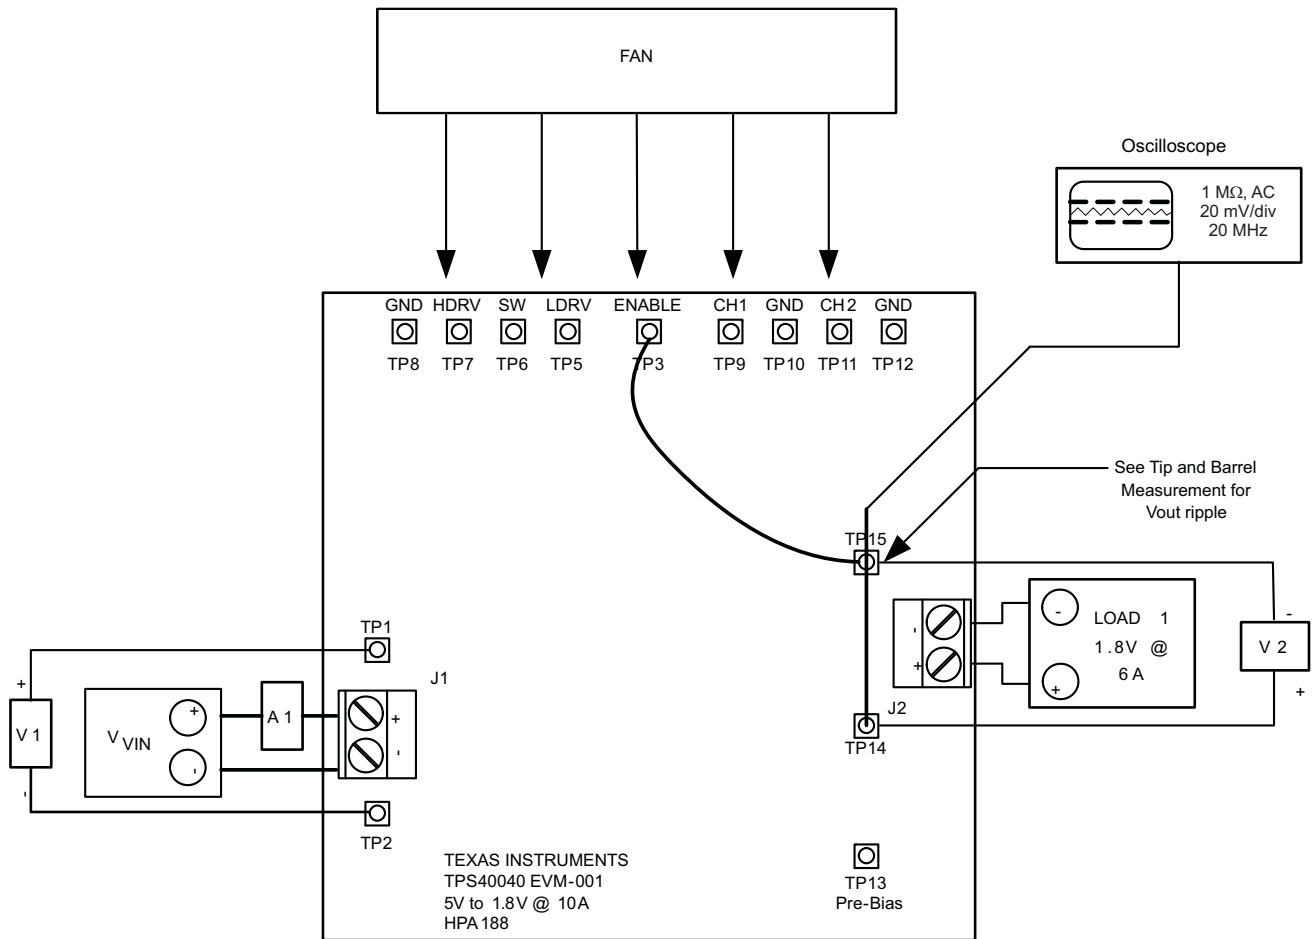
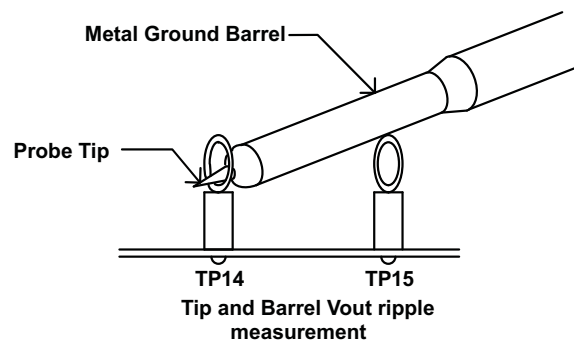

Figure 2. TPS40040EVM-001 Recommended Test Set-Up
Figure 3. Output Ripple Measurement – Tip and Barrel using TP14 and TP15
TPS40040EVM-001 provides two test points for measuring the voltage generated by the module. This allows the user to measure the actual module output voltage without losses from output cables and connector losses. All output voltage measurements should be made between TP14 and TP15. To use TP14 and TP15, connect a voltmeter positive terminal to TP14 and negative terminal to TP15. For output ripple measurements, TP14 and TP15 allow a user to limit the ground loop area by using the Tip and Barrel measurement technique shown in Figure 3. All output ripple measurements should be made using the Tip and Barrel measurement.
The input voltage source (V_{IN}) should be a 0-V to 6-V variable DC source capable of 5 A dc. Connect V_{IN} to J1 as shown in Figure 3.
A digital or analog oscilloscope can be used to measure the ripple voltage on V_{OUT} . The oscilloscope should be set for 1-M Ω impedance, 20-MHz bandwidth, ac coupling, 1- μ s/division horizontal resolution, 10-mV/division vertical resolution for taking output ripple measurements. TP15 and TP16 can be used to measure the output ripple voltage by placing the oscilloscope probe tip through TP15 and holding the ground barrel to TP16 as shown in Figure 3. For a hands-free approach, the loop in TP16 can be cut and opened to cradle the probe barrel. Using a leaded ground connection can induce additional noise due to the large ground loop area.
Shown in Figure 3 is the basic test setup recommended to evaluate the TPS40040EVM-001. Note that although the return for J1 and J2 are the same, the connections should remain separate as shown in Figure 2.
2. Prior to connecting the dc input source, V_{IN} , it is advisable to limit the source current from V_{IN} to 5 A maximum. Ensure that V_{IN} is initially set to 0 V and connected as shown in Figure 2.
3. Connect the ammeter A1 (0-A to 5-A range) between V_{IN} and J1 as shown in Figure 2.
4. Connect voltmeter V1 to TP1 and TP2 as shown in Figure 2.
5. Connect LOAD1 to J2 as shown in Figure 2. Set LOAD1 to constant current mode to sink 0 Adc before V_{IN} is applied.
6. Connect voltmeter, V2 across TP14 and TP15 as shown in Figure 2.
7. Place fan as shown in Figure 2. and turn on, ensuring that air is flowing across the EVM.
4. Connect oscilloscope probe to TP15 and TP16 as shown in Figure 3.